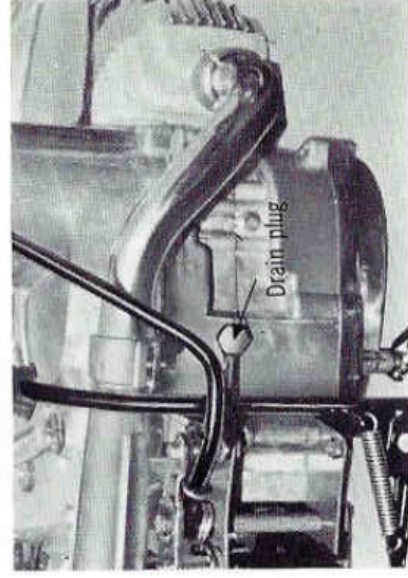

Fig. 8-1-10
13. Intending to disassemble engine, drain out **oil** from the gear box by loosening the drain plug with a 21 mm wrench. (Fig. 8-1-10) Replace the plug after draining oil, making sure gaskets are placed between them.